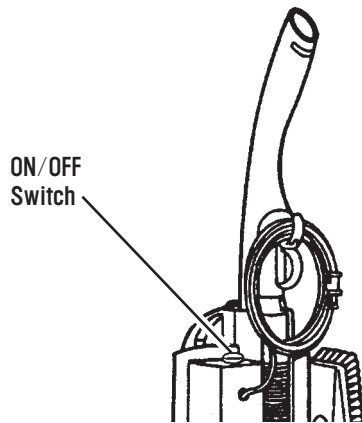

Figure 8
1. The ON/OFF Button is located at the base of the Upper Handle. It is marked with "O" and "-". (See Figure 8.)